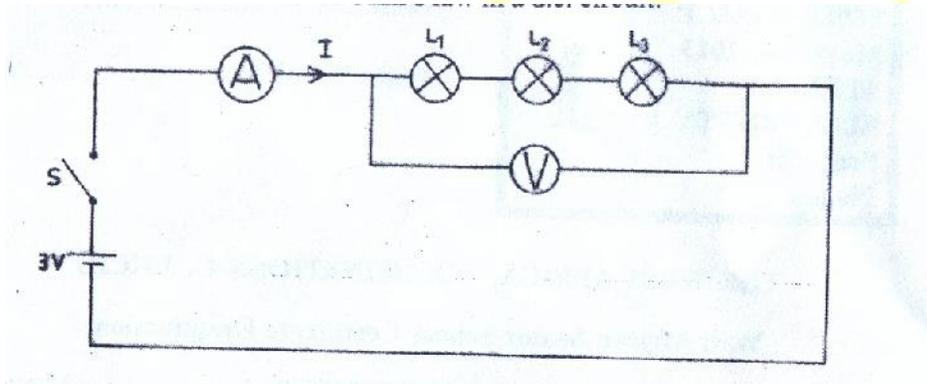

Figure 1
- (a) **Connect the circuit as shown in Figure 1.**